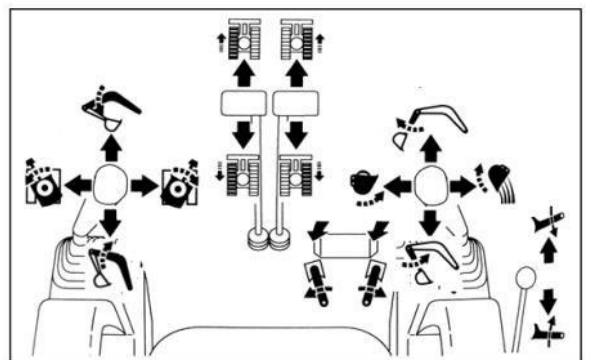
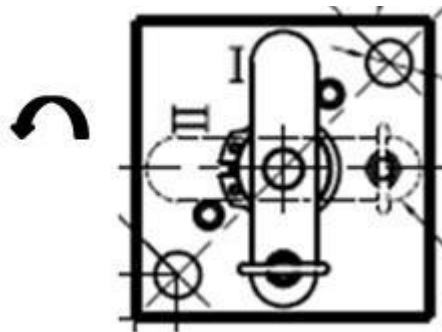

FIG. 3.2.4
FIG. 3.2.5
Open the hinged door of left housing cover, as FIG. 3.2.4, left and right operation switch valve ① locate on the bottom left of the platform respectively. Pull out the snap ring and pin, turn the switch anticlockwise 90° to the II position shown in the FIG. 3.2.5, and release the snap ring. Operating mode is changed from mode one to mode two. Left and right pilot control function is changed as below: